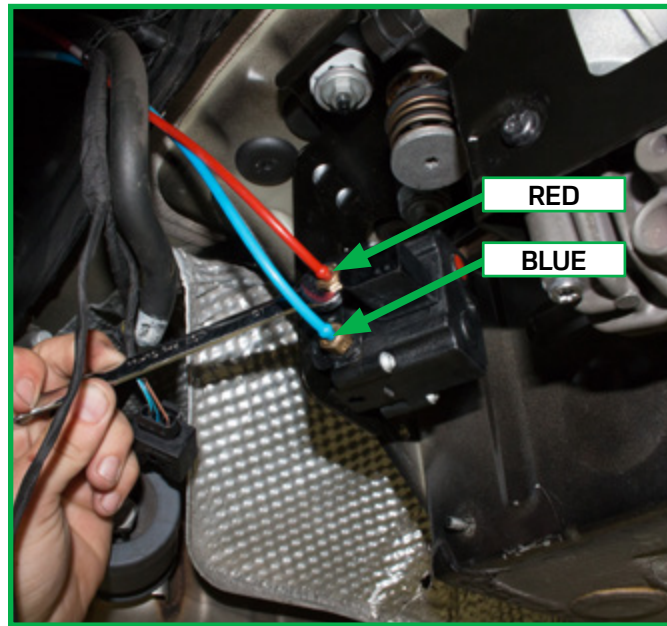

FIGURE 21
3. Reattach the red (upper) and blue (lower) air lines. (Figure 21)